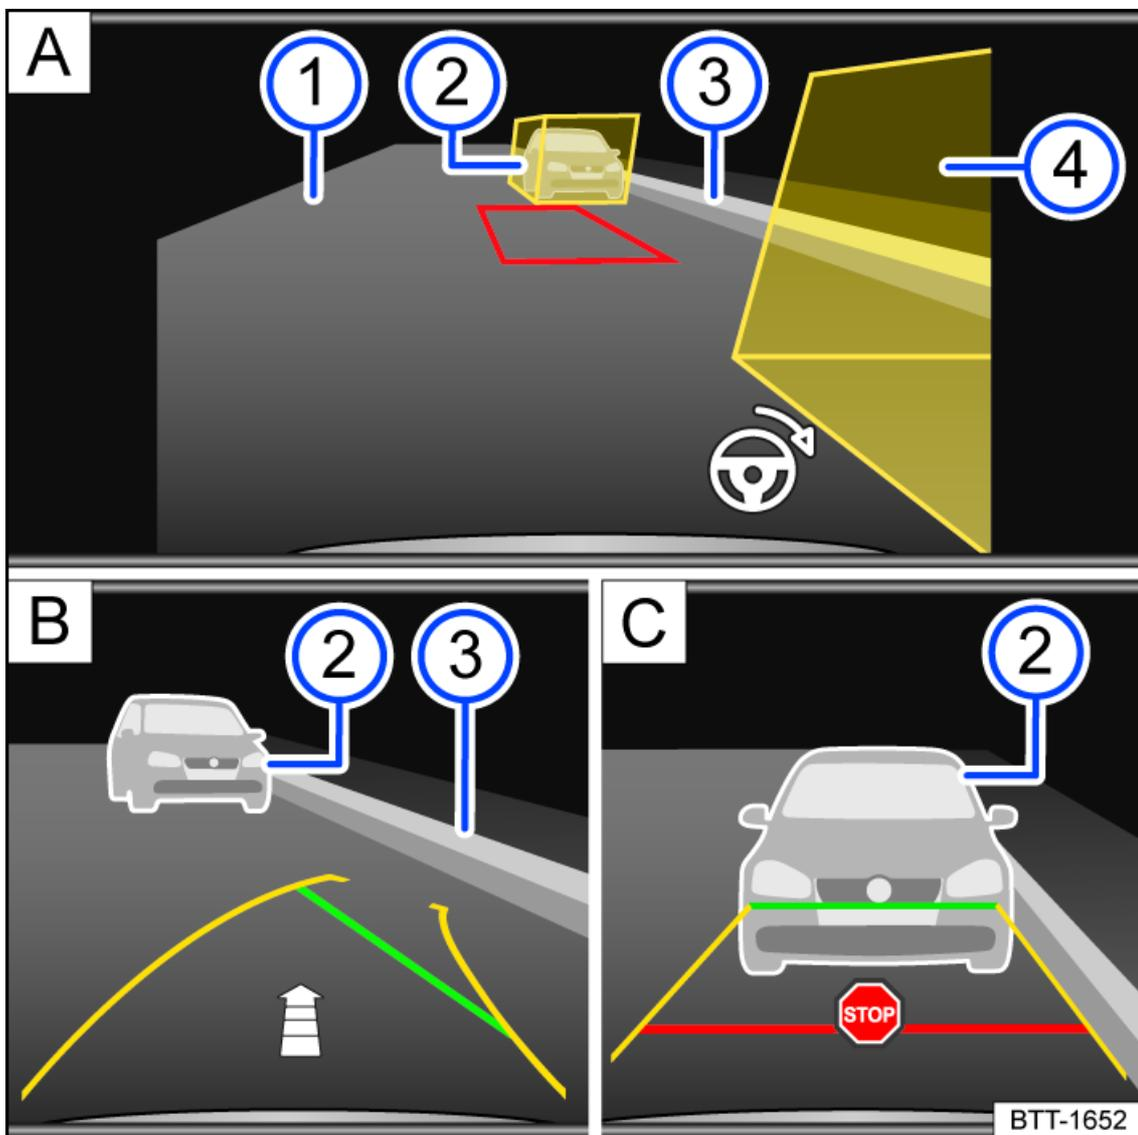

Fig. 126 Infotainment system: Parking parallel to the road.
- ① Road surface.
- ② Obstacle or assisting box.
- ③ Side boundary of the parking space.
- ④ Obstacle or assisting box.
4. Position the vehicle at a distance of approx. 1 m (approx. 3 ft) parallel to the parking row. The yellow assisting boxes must cover the obstacles *fig. 126 A* ② or ④. The area in between must be free of obstacles.
5. Select the reverse gear. A red frame represents the target position of your vehicle *fig. 126 A*.
6. Turn the steering wheel until the red frame moves between the assisting boxes and becomes green *fig. 126 A*. Hold the steering wheel in this position while driving in reverse.
7. Drive slowly in reverse until the  stop symbol appears or the green line aligns with the side boundary of the parking space *fig. 126* **C**. An *fig. 126* **B** arrow indicates the remaining distance to be driven based on the number of display segments.